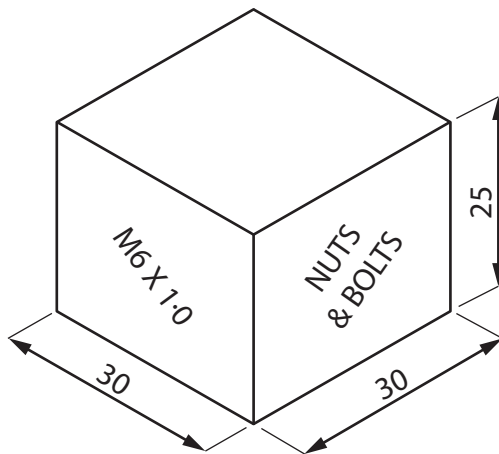

Figure 8
- 5 Figure 8 shows a design solution for a nuts and bolts tidy case together with some additional information.